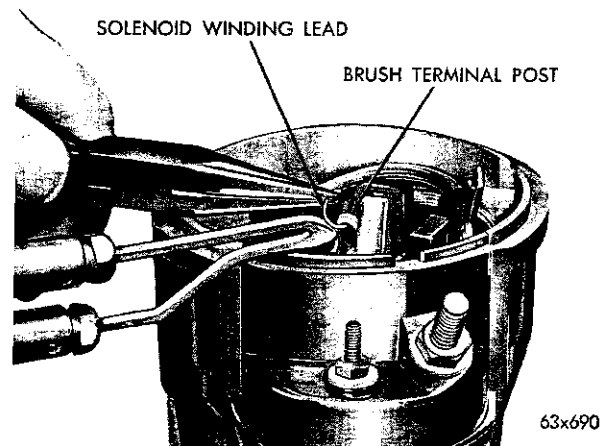

Fig. 23—Unsoldering Solenoid Winding Head
- (9) Unsolder the solenoid winding from the starter brush terminal (Fig. 23).